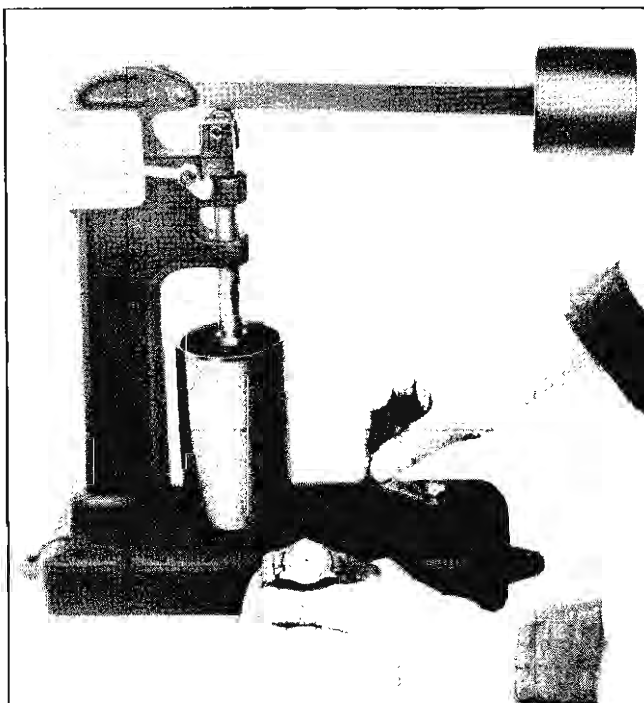

Fig. 6-30 Testing Leak-Down Rate
After all lifters have been assembled, the leakdown rate must be checked before they are installed in the engine. Valve lifter leakdown tester J-5790 (Fig. 6-30) is designed to test leakdown rate of lifters to determine whether or not they are within specified limits. As with previous service operations concerned with lifters, cleanliness is important. The tester cup and ram should be thoroughly cleaned, and testing should be done in an area free of dust and dirt. The testing procedure is described in the following steps:
5. Raise weight arm to allow plunger spring to expand fully; lower arm onto ram and commence turning crank slowly (1 revolution every 2 seconds). Time indicator travel from lower line (first line above set line) to line marked .125 or  $\frac{1}{8}$ " , while still rotating cup with crank (Fig. 6-30). Lifter is satisfactory if rate is between 12 and 60 seconds.